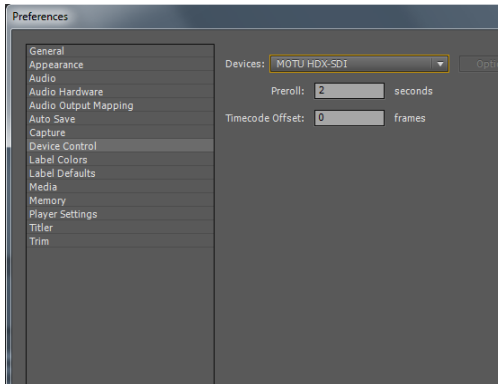

Figure 7-13: Device control.
- 4 Back in Premiere Pro, choose *Edit menu > Preferences > Device Control* and choose *MOTU HDX-SDI* from the Devices menu (Figure 7-13).